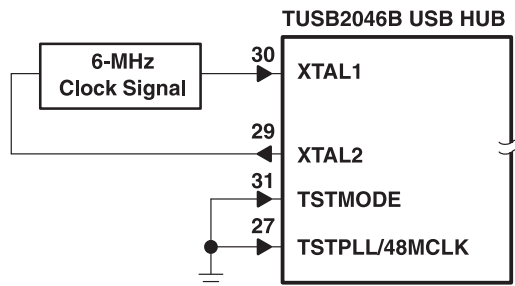

Figure 7. 6-MHz Input Clock Configuration
- A 6-MHz input clock configuration is shown in Figure 7. In this mode, both TSTMODE and TSTPLL/48MCLK terminals must be tied to ground. The hub is configured to use the 6-MHz clock on terminals 30 and 29, which are XTAL1 and XTAL2, respectively, on the TUSB2046B. This is identical to the TUSB2046.